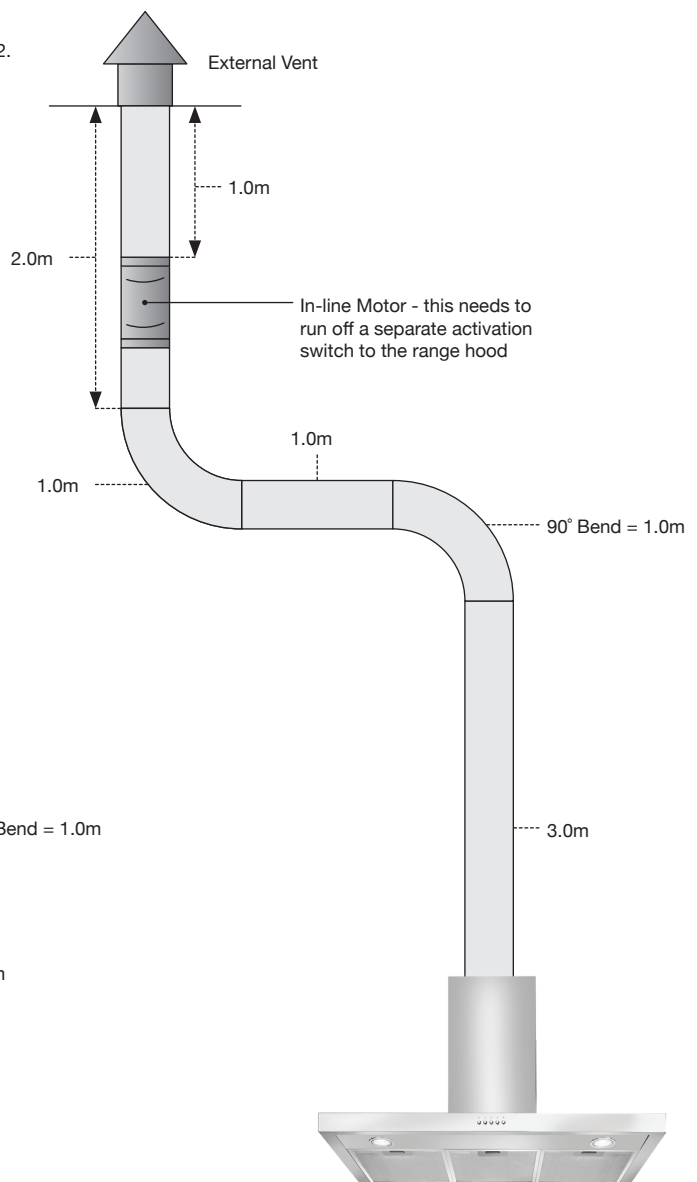

FIG. 1
The air is released in the room through a connecting pipe, which goes through the hanging cupboard and us connected to the connecting ring supplied (A) Fig 1.